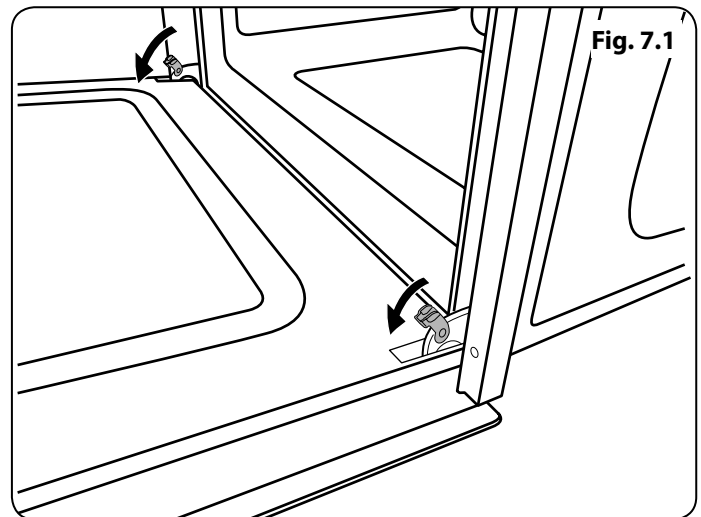

Fig. 7.1
1. Open the door to the full extent. Unlock the locking clips on both the left and right hinges (**Fig. 7.1**).